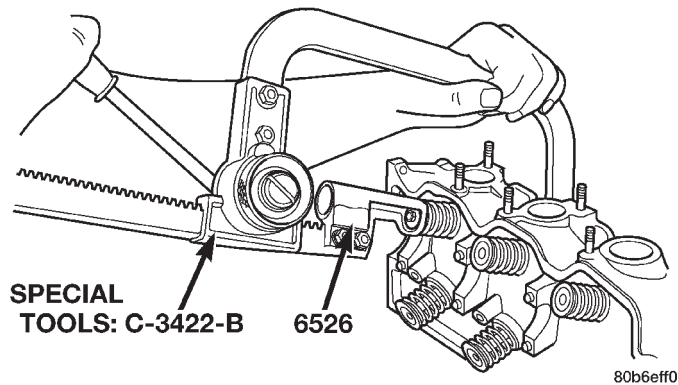

Fig. 96 Valve Removal
(1) With valve spring compressor Special Tool C-3422-B with adapter 6526 or equivalent, remove spring retainer locks, retainer, valve spring, and valve (Fig. 96).